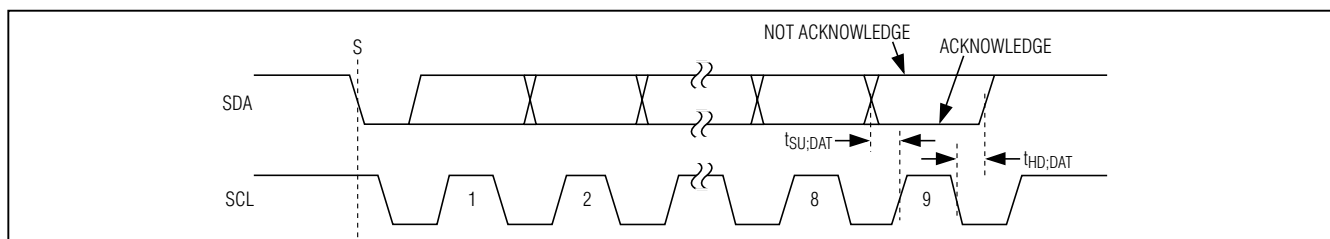

Figure 9. Acknowledge Bits
Both the master and the MAX8660/MAX8661 (slave) generate acknowledge bits when receiving data. The acknowledge bit is the last bit of each 9-bit data packet. To generate an acknowledge (A), the receiving device must pull SDA low before the rising edge of the acknowledge-related clock pulse (ninth pulse) and keep it low during the high period of the clock pulse (Figure 9). To generate a not acknowledge ($\bar{A}$), the receiving device allows SDA to be pulled high before the rising edge of the acknowledge-related clock pulse and leaves it high during the high period of the clock pulse.